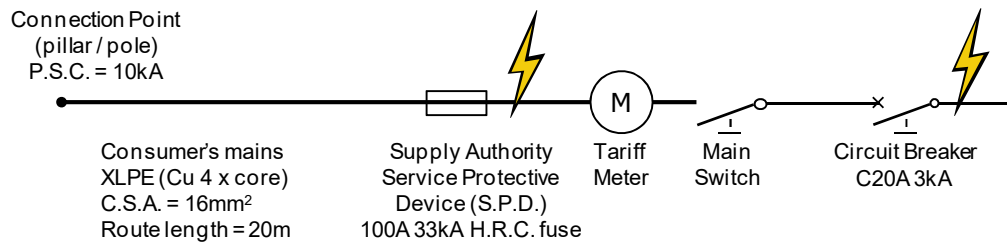

figure 10.
1. Calculate the impedance of the supply at the point of supply shown in figure 10.
2. Calculate the impedance of the active conductor of the consumers mains in figure 10 using table 35 of AS3008.1.1 (use 90°C temperature)
In a domestic installation the Service Protective Device (S.P.D.), typically a 100A H.R.C. fuse with a breaking capacity of between 50 to 33kA is also used as a fault current limiter. The 100A nominal current rating is large enough to cover the maximum demand of most domestic installations. In figure 10 a 20A 3kA circuit breaker is located in a main switch board, which, from exercise 11 was found to have P.S.C. of 4.5kA. If a short circuit occurs in the final sub circuit, close to the main switch board a high fault current will flow in the final sub-circuit. The service protective device (S.P.D.) will operate before the 20A 3kA circuit breaker limiting the let through current to just 1.8kA, a value that will not cause damage to the downstream circuit breaker. When the S.P.D. operates supply to the entire installation will be lost.